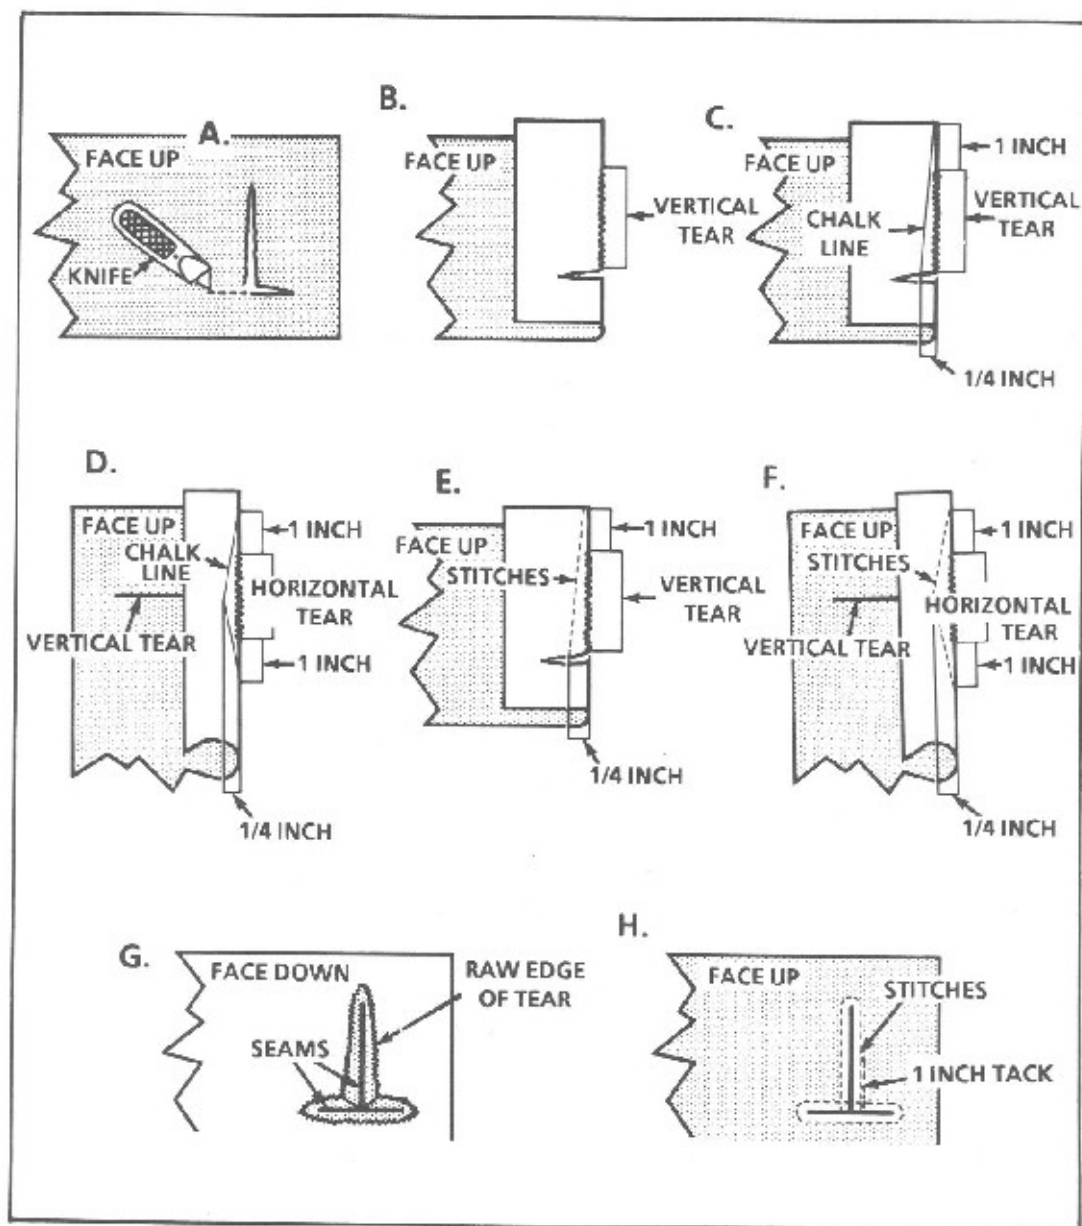

Figure 3-75
- h. Position the item so the face side is up. Sew a row of stitches 1/16-inch around the outside seams. Finish the seam by overlapping the stitch row 1-inch to form a tack. (See Figure 3-75)